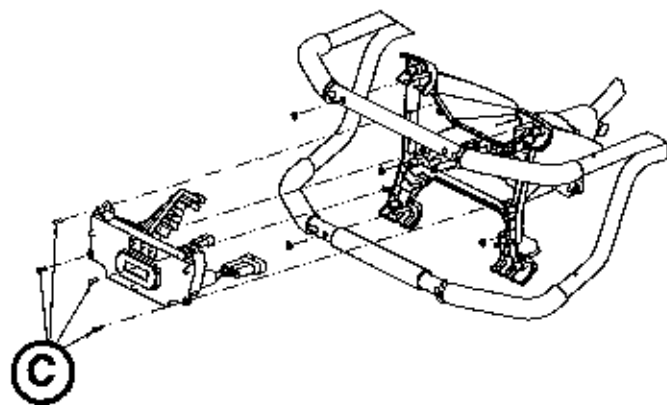

Figure 83
5. Using a T20 Torx driver, remove the four delta screws (C) that secure the electronics assembly to the foot end enclosure and pull the electronics assembly out (Figure 83). Save all parts for reinstallation.